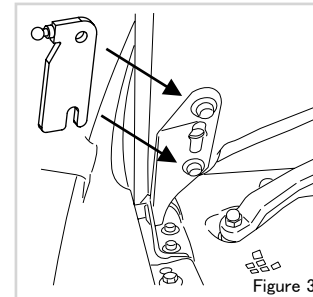

Figure 3
- 7) Unscrew and remove the bolt securing the hood (upper and lower sides), then mount the included bracket **between the hinge and the hood**. Tighten the bolt to the specified torque. (See Figure 3)